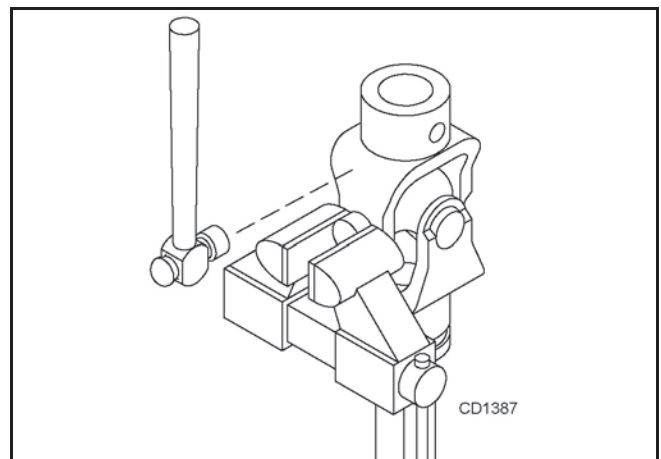

Figure 30. Remove Cups
3. Clamp cup in vise as shown in Figure 30 and tap on yoke to completely remove cup from yoke. Repeat Step 2 and Step 3 for opposite cup.